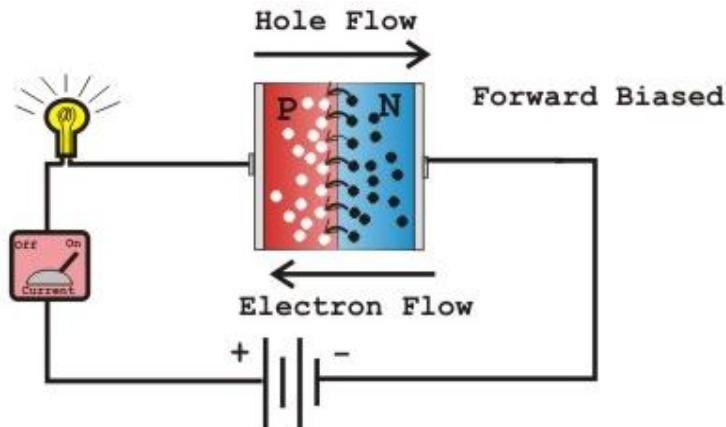

Figure 1.1.4. Forward biasing of P-N junction diode.
- b) **Forward Bias:** When a negative voltage is applied to the N-type material and a positive voltage is applied to the P-type material, the diode is said to be in a Forward Bias condition. Figure 1.1.4. shows the diode with forward biase. If the external voltage applied is greater than the value of the barrier potential, the carriers start crossing eth junction and hence there will be a forward current. The diode is said to be in the ON condition.